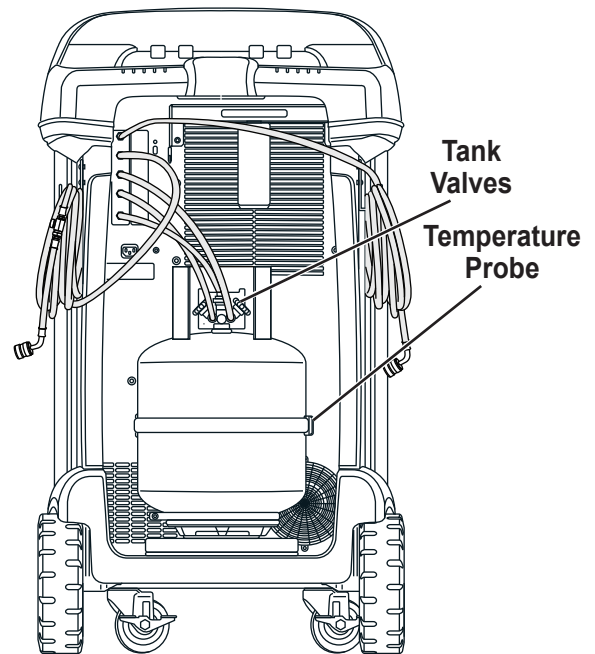

Figure 7
6. The user will be prompted to replace the refrigerant tank on the rear of the unit with one designated for the newly selected refrigerant, connect the tank hoses, open the tank valves, and reinstall temperature probe. See Figure 7.